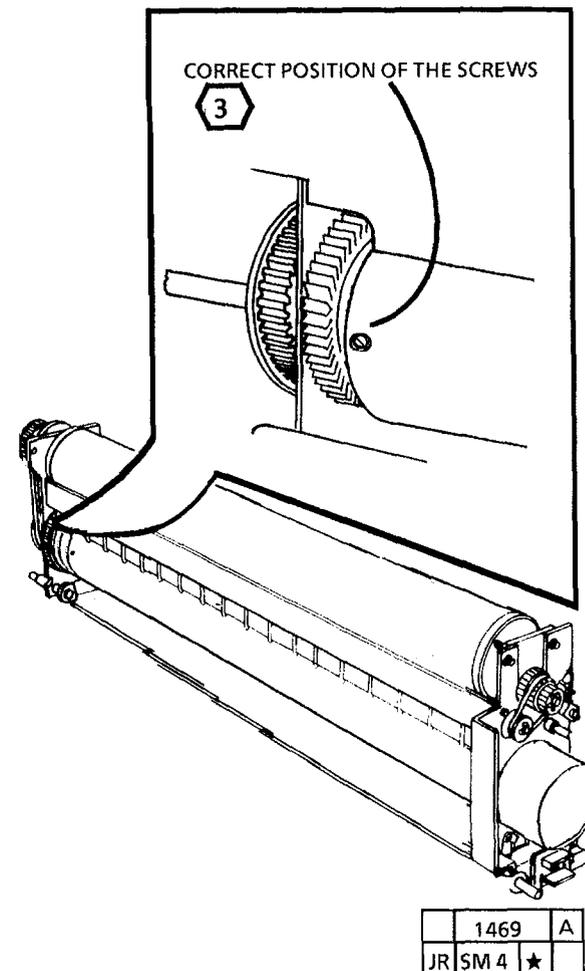

Figure 8. Position the Fuser Roll Correctly
3 STEP 11: The fuser roll must be in the position shown in Figure 8 before removing the fuser roll bearing.
11. (FIGURE 8): POSITION THE FUSER ROLL CORRECTLY.